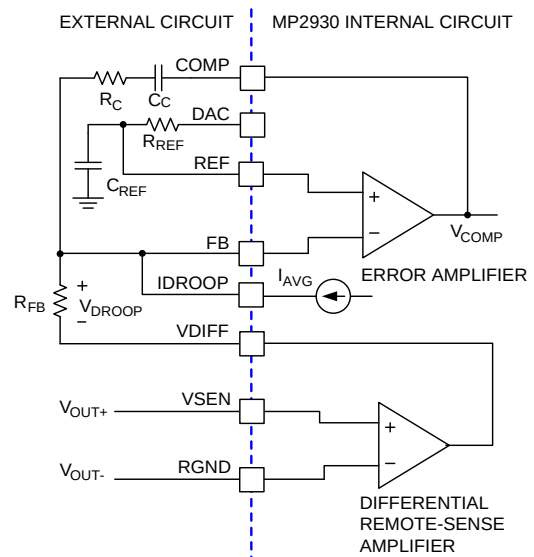

Figure 4—Output Voltage and Load-line Regulation with Offset Adjustment
The compensation network shown in Figure 4 assures that the steady-state error in the output voltage is limited only to the error in the reference voltage (output of the DAC) and offset errors in the OFS current source, remote-sense and error amplifiers.
The output of the error amplifier (V_{COMP}) is compared to sawtooth waveforms to generate the PWM signals. The PWM signals control the timing of the MP86961 and regulate the converter output to the specified reference voltage. The internal and external circuitry, which control voltage regulation are shown in Figure 4.
As shown in Figure 4, a current proportional to the average current of all active channels (I_{AVG}) flows from FB through a load-line regulation resistor R_{FB} . The voltage drop across R_{FB} is proportional to the output current. It can be derived from Equation (6):